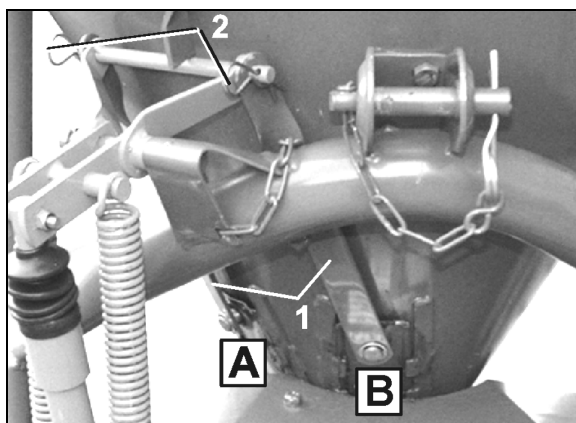

Fig. 11
If it is intended to keep one shutter slide closed during operation unhook the relevant switch rod (Fig. 11/1).
1. Pull spring cotter (Fig. 11/2).